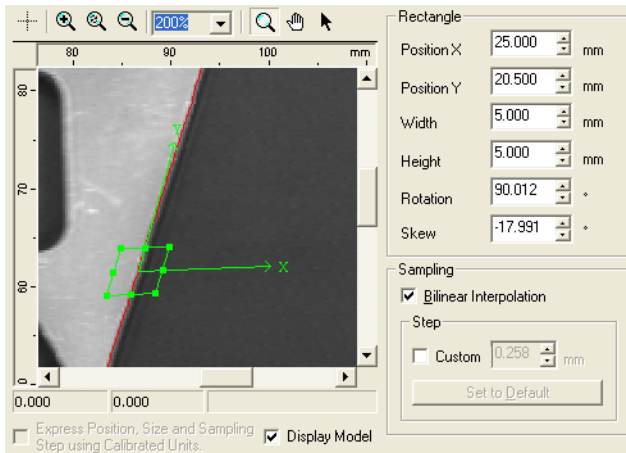

Figure 80 Adjusting Rectangle for the Hook's Right Edge
8. Place the Rectangle on the part as shown in Figure 80. Click the arrow of the X-axis and drag it to adjust the rotation to 90 degrees. Click the center of the Rectangle and drag it into position. Since the edge to be located is not orthogonal to the tool's X-axis, adjust the skew by clicking and dragging the arrow of the Y-axis to make it parallel to the right edge of the part. Fine-tune the position with the text boxes if needed. Once the Rectangle is placed, click **Execute**.